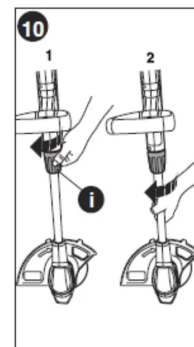

Figure 10
- To operate as a maintenance edger, turn 10 the collar (i) as shown in part 1 of figure 10.